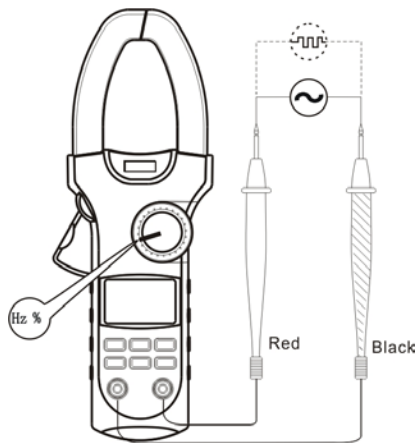

Figure 7
E. Frequency and Duty Cycle Measurement (see figure 7)